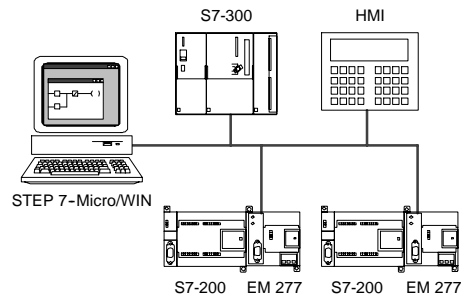

Figure 7-16 Baud Rates Above 187.5 Kbaud
For baud rates above 187.5 kbaud, the S7-200 CPU must use an EM 277 module for connecting to the network. See Figure 7-16. STEP 7-Micro/WIN must be connected by a communications processor (CP) card.